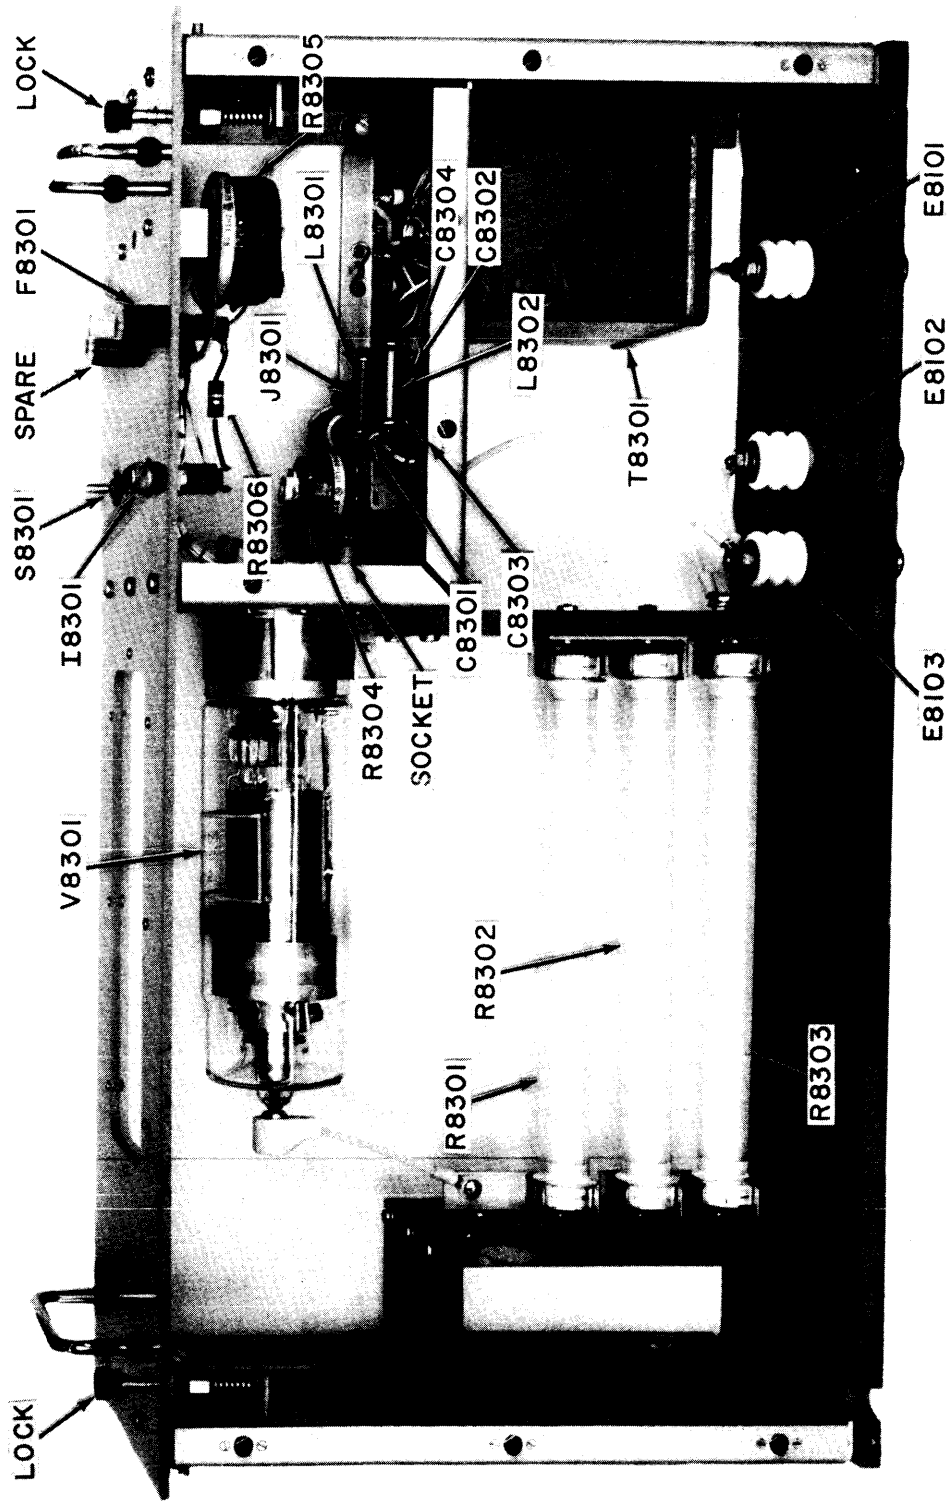

Figure 4-5-2. Top View with Callouts, Crowbar Drawer, GPT-40K
b. LOCATION DATA. - Figure 4-5-2 shows top view, with callouts, of the crowbar drawer.